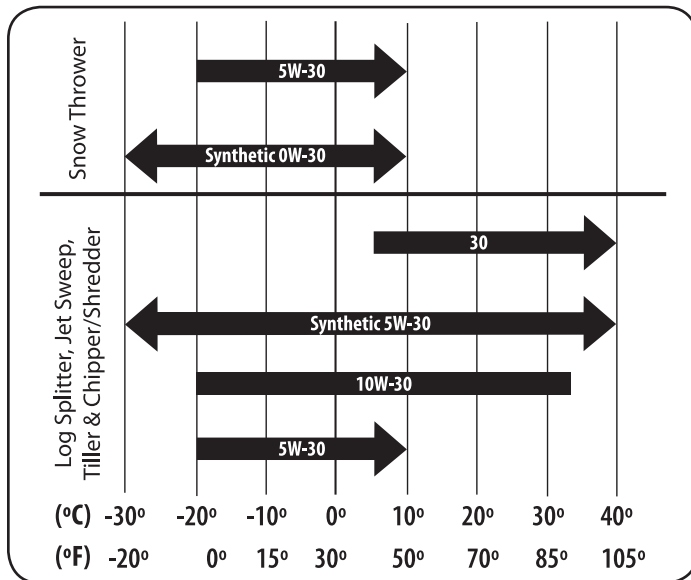

Figure 25
- Refer to the viscosity chart (Figure 25) for oil recommendations. Do not overfill. Use a 4-stroke, or an equivalent high detergent, premium quality motor oil certified to meet or exceed U.S. automobile manufacturer's requirements for service classification of a minimum level SF or SG (higher letter ratings are acceptable such as SJ, SL and SM grades). Motor oil will display this designation on the container.